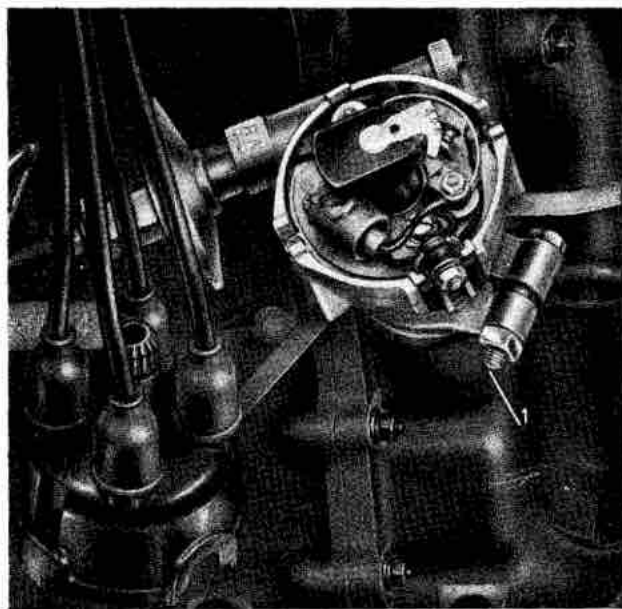

Fig. 25. - Ignition distributor.
- 2) Remove the distributor cover and turn the cam spindle by hand so as to bring the rotor arm towards the distributor contact for cylinder No. 1 as shown in fig. 25.
- 4) In this position, and without moving the cam spindle, mount the distributor on its support and tighten the bolt which locks the distributor body in position (fig. 25).
- Loosen the nut on the locking bolt (fig. 25).